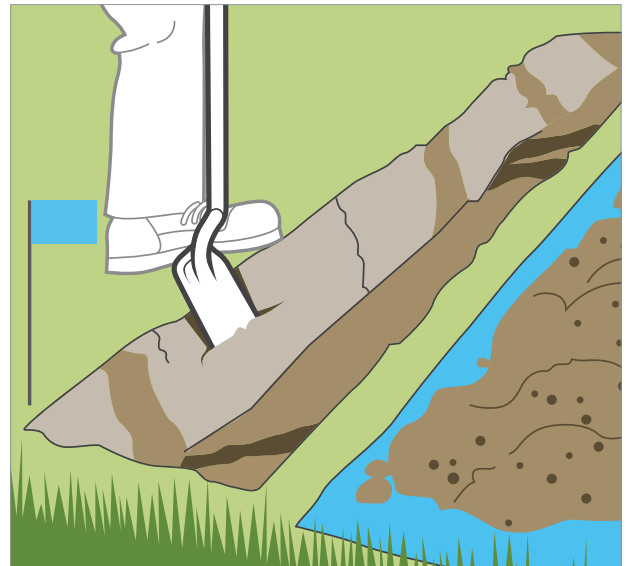

Figure 2
4. Trenching: Check local codes. If there are no established local codes for sprinkler main line depth in your area, trench 25 cm to 30 cm deep. Trench 15 to 20 cm for lateral lines. Trenching can be done by hand or with a trencher. Trenchers are available at most equipment rental yards (*Figure 2*).